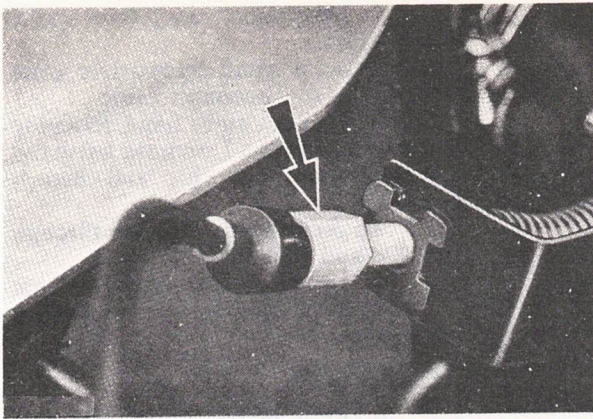

Fig. 1. Accelerator cable adjusting sleeve.
3. Wind in cable adjusting sleeve, Fig. 1. Locate throttle in wide open position and jam in this position with a suitable block of wood.